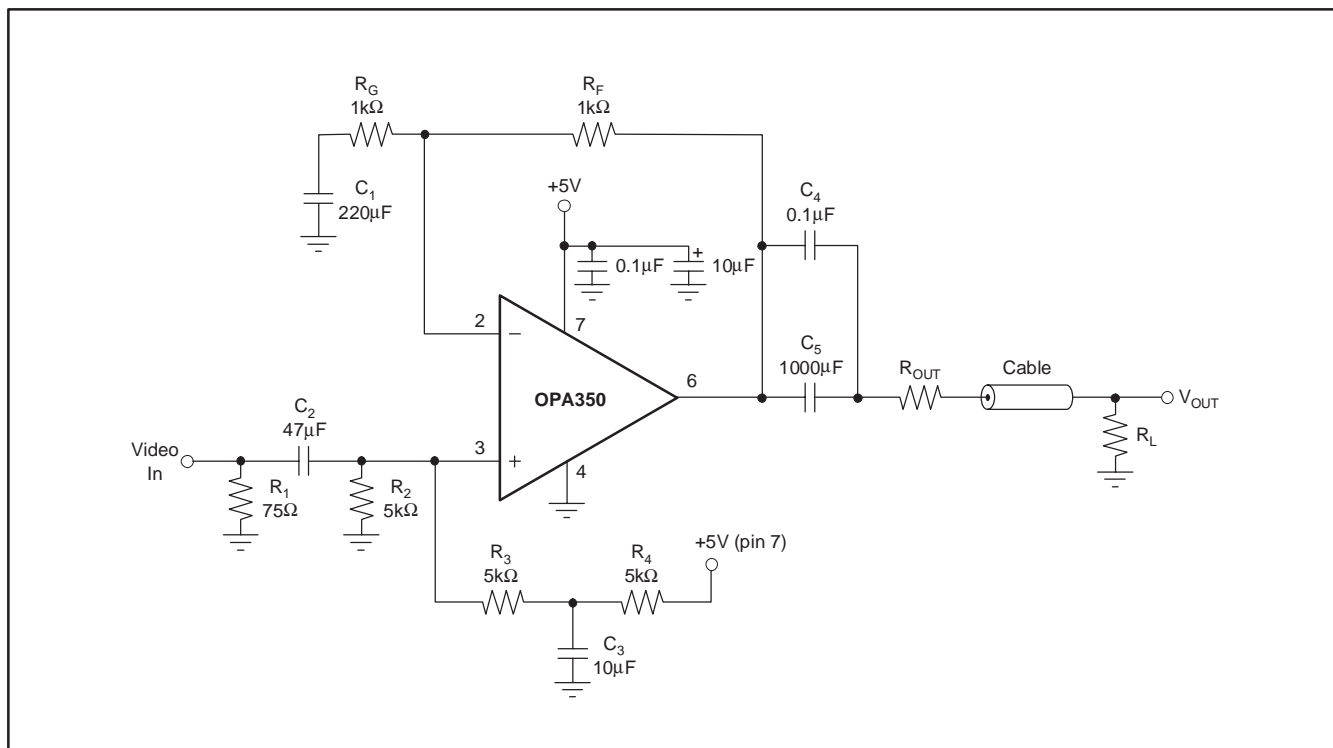

Figure 6. Single-Supply Video Line Driver
(3) NTSC signal generator used. See Figure 6 for test circuit.
(4) Output voltage swings are measured between the output and power supply rails.
(5) See typical characteristic curve, *Output Voltage Swing vs Output Current*.
Figure 6 shows a circuit for a single supply, $G = 2$ composite video line driver. The synchronized outputs of a composite video line driver extend below ground. As shown, the input to the op amp should be ac-coupled and shifted positively to provide adequate signal swing to account for these negative signals in a single-supply configuration.
The input is terminated with a 75 Ω resistor and ac-coupled with a 47 μ F capacitor to a voltage divider that provides the dc bias point to the input. In Figure 6, this point is approximately $(V-) + 1.7V$. Setting the optimal bias point requires some understanding of the nature of composite video signals. For best performance, one should be careful to avoid the distortion caused by the transition region of the OPA350's complementary input stage. Refer to the discussion of rail-to-rail input.